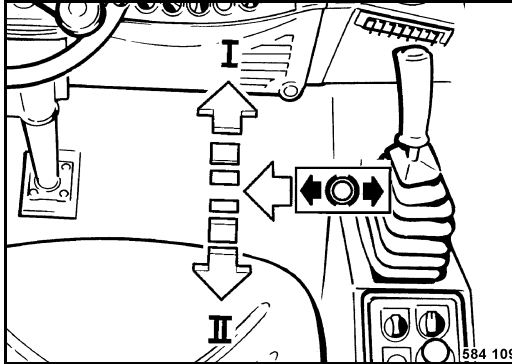

Fig. 57
- Shift the travel lever (Fig. 57) to the left to disengage it from braking position.